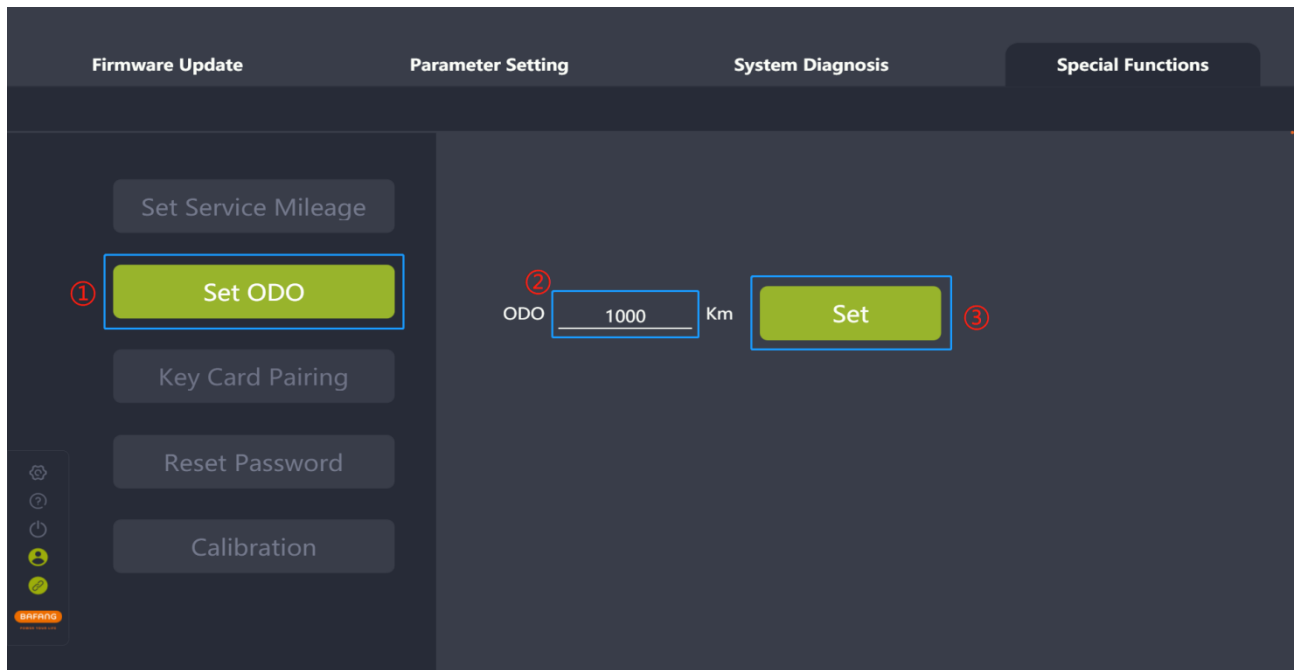

Fig. 7-2 Set ODO
- (1) Connect the BESST Box to the display and select the "Set ODO" icon;
- (2) Enter the total mileage (ODO) in the input box and the value is an integer from 0 to 9999;
- (3) Click the "Set" icon (e.g. Fig. 7-2).